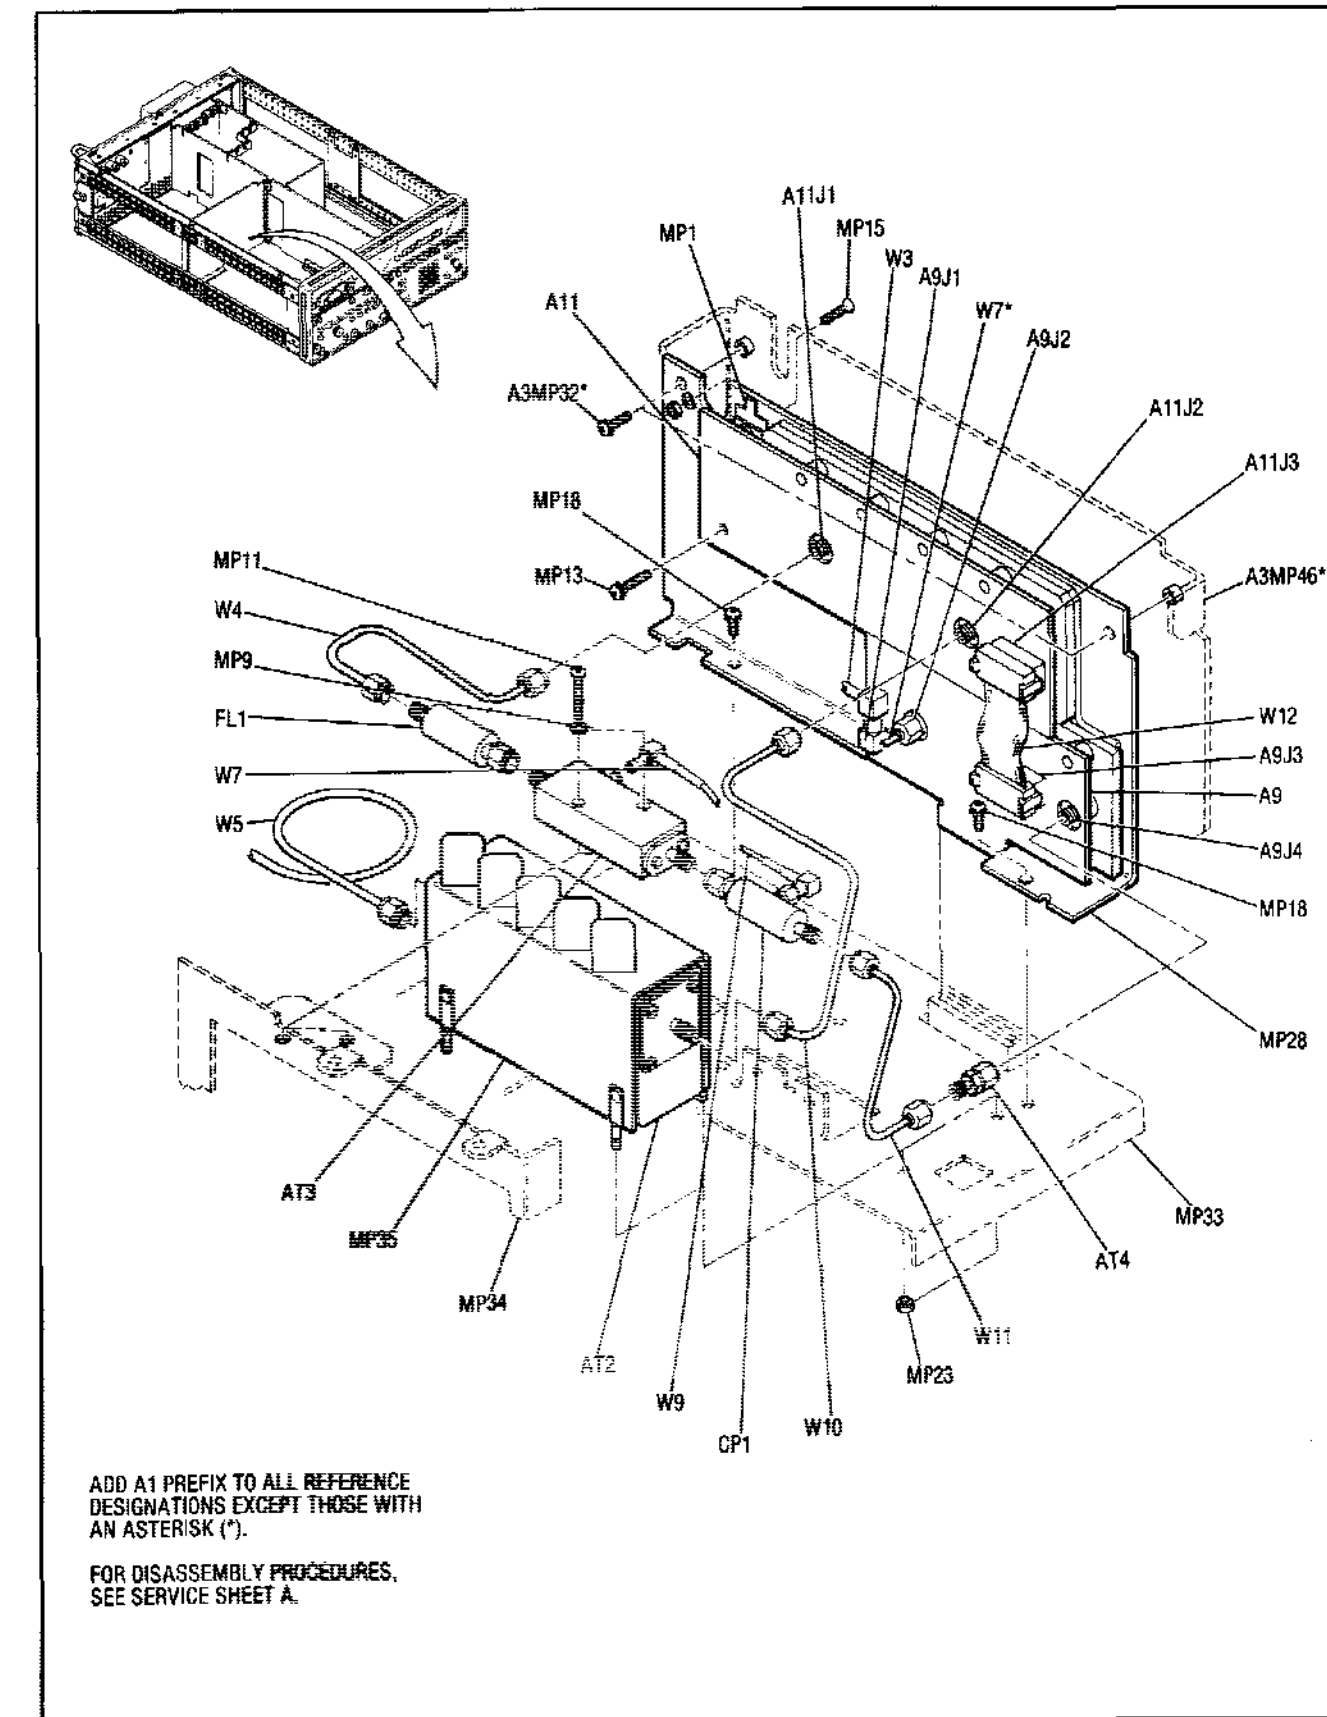

Figure 8-173. A1 RF Output Assembly, Preamp and Power Amp
3. Refer to Figure 8-173 for the following steps.